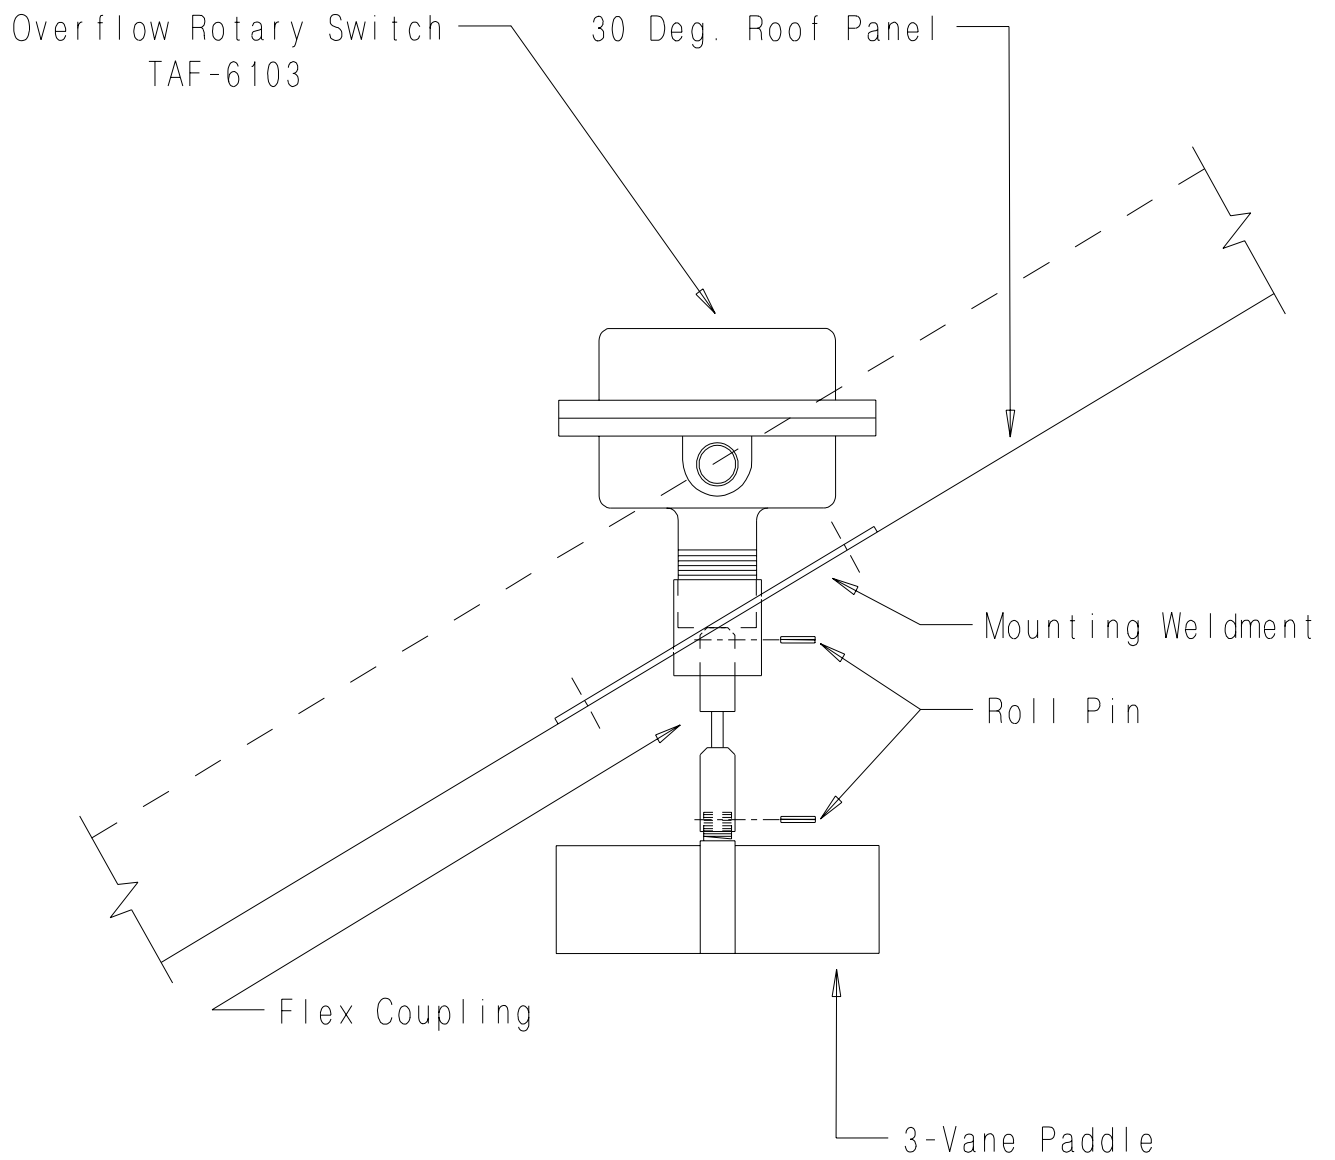

Figure 6: Drying chamber overflow rotary switch.
8. Attach the 3-vane paddle to the flex coupling as shown in Figure 6.